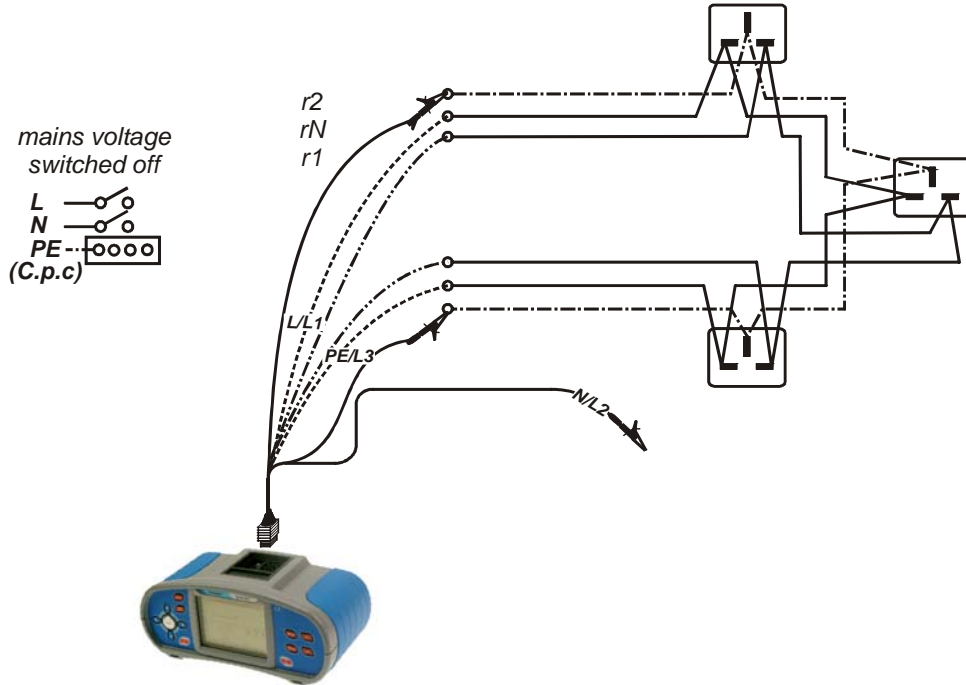

Figure 5.19: Step 1 – measurement of resistances r1, rN and r2
- ❑ For r1, rN, r2 measurements refer to figure 5.19.
- ❑ For the following measurements refer to figure 5.19.